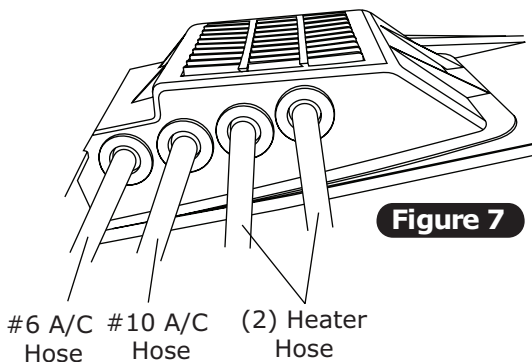

Figure 7
2. Route A/C and heater hoses through fresh air box and kick panel fresh air cap as shown in Figures 7 and 7a, below.